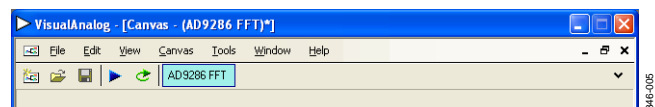
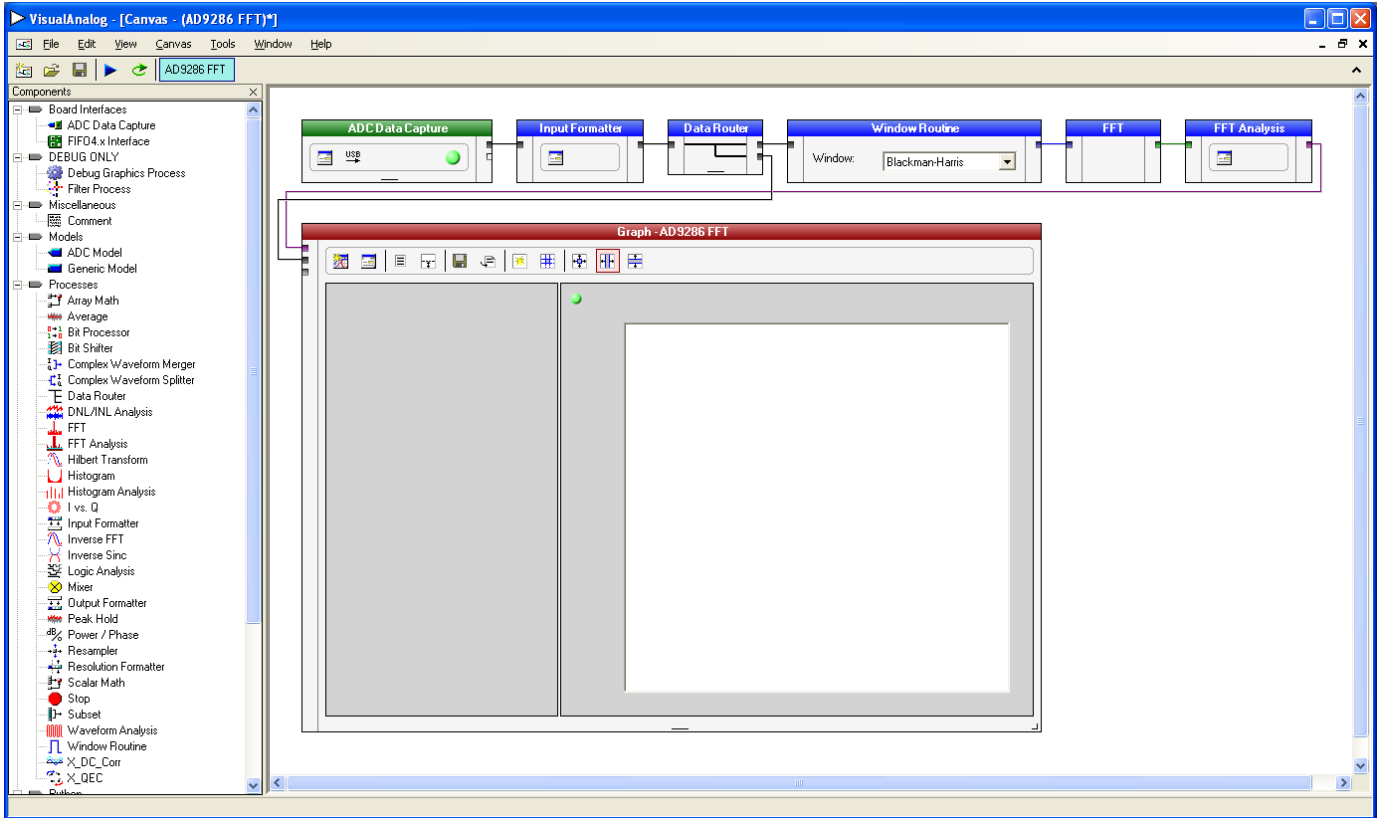

Figure 5. VisualAnalog Window Toolbar, Collapsed Display
Figure 6. VisualAnalog Main Window
3. To change features to settings other than the default settings, click the **Expand Display** button, located on the bottom right corner of the window, to see what is shown in Figure 6. Detailed instructions for changing the features and capture settings can be found in the AN-905 Application Note, *VisualAnalog Converter Evaluation Tool Version 1.0 User Manual*. After the changes are made to the capture settings, click the collapse display button (see the collapsed display in Figure 5).